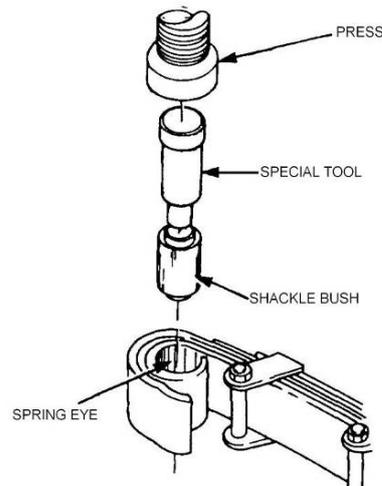

Figure 125 Replacement of the Shackle Bush
- c. Position special tool 18GA084 on the shackle bush (Figure 125). Ensure that the tool is correctly aligned and press the shackle bush from the spring eye.